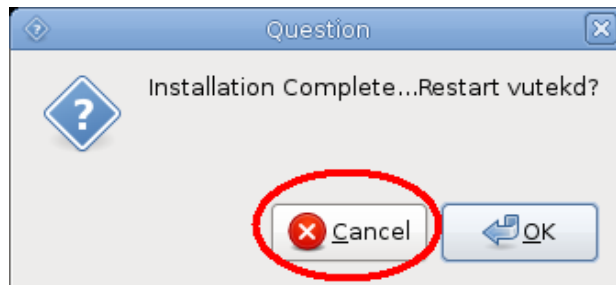

Figure 87: Installation complete dialog
- At this point, upgrade is complete. VUTEK software needs to be restarted in order for newly updated software to run. Updater script will offer to restart software (on both Control and Print systems). *However, this feature is not currently functioning.* Therefore, when prompted with the dialog box shown below, the user should select **Cancel** as shown in **Figure 87**.